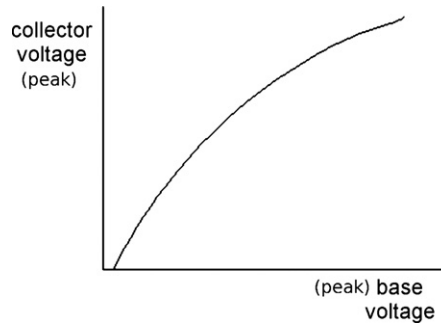

Figure 4.5:
- A simple plot of collector wave voltage against base wave voltage for a transistor in a simple amplifier circuit (Figure 4.5) is curved.